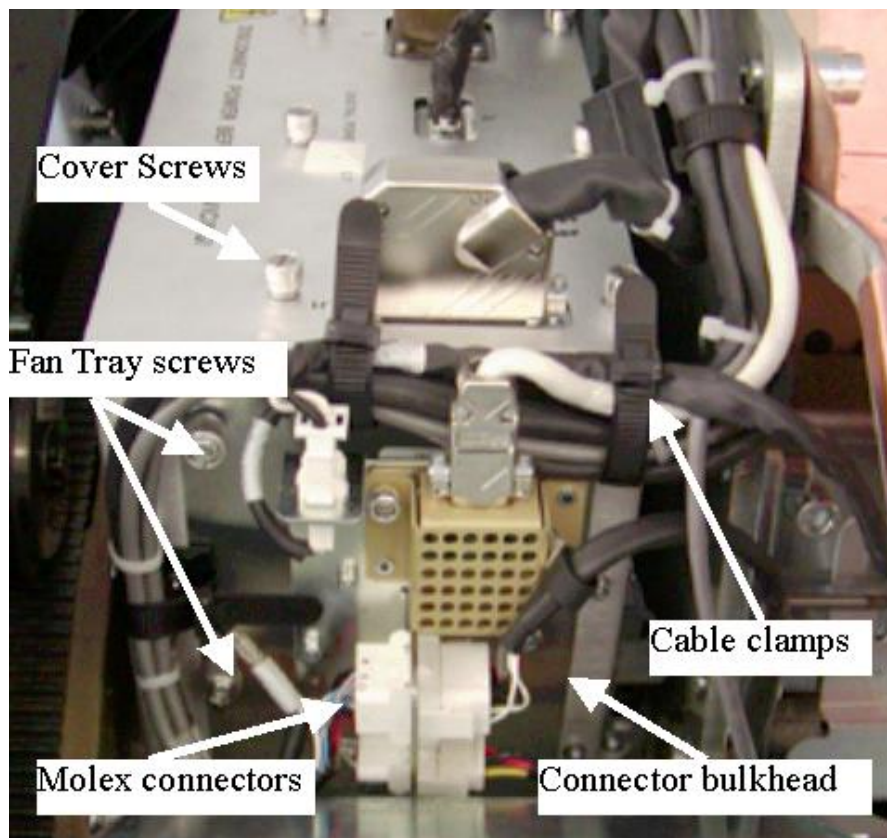

Figure 2 GDAS Cabling
- o Check on each end of the power supply for cables that may be mounted just out of sight on the ends. Most are secured using reusable cable clamps that are black and shown in Figure 2 GDAS Cabling. To open the cable clamps pull back on the small tab away from the end of the strap and push the strap back through the clamp.